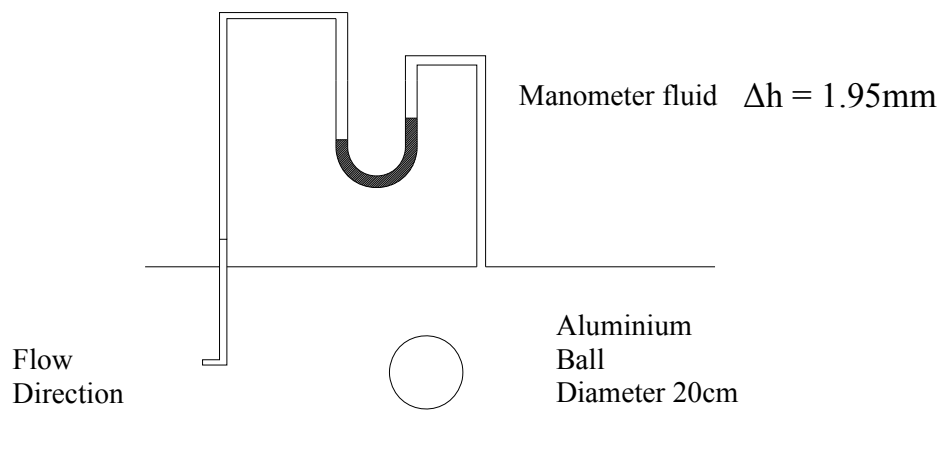

Figure Q5[b]
- [b] A 20cm aluminium ball ($\rho=2700 \text{ kg/m}^3$, $c_p=920 \text{ J/kg.K}$) is removed from an oven at uniform temperature of 290°C to a wind tunnel at ambient temperature of 15°C , as shown in Figure Q5[b]. The distance between two manometer fluid levels is 1.95mm. The surface ball temperature eventually drops to 210°C . Calculate the average convection heat transfer coefficient during this cooling process and calculate how long the process will take. Given manometer fluid density is 800kg/m^3 .